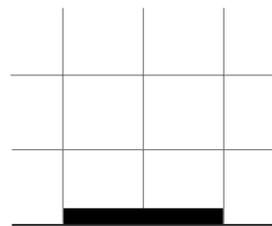

Fig. 2
**Notes:** Write them so that the horizontal lines in the upper and lower positions are put in the ruled lines as shown in Figure 2.